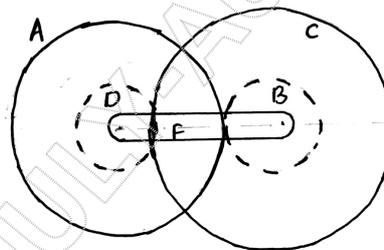

Fig Q8(b)
- b. In a reverted epicyclic train, the arm F carries two wheels A and D and a compound wheel B-C as shown in Fig Q8(b). The wheel A meshes with wheel B and the wheel D meshes with wheel C the number of teeth on wheel A, D and C are 80, 48 and 75 respectively. Find the speed and direction of wheel D, when wheel A is fixed and arm F makes 200rpm CW.